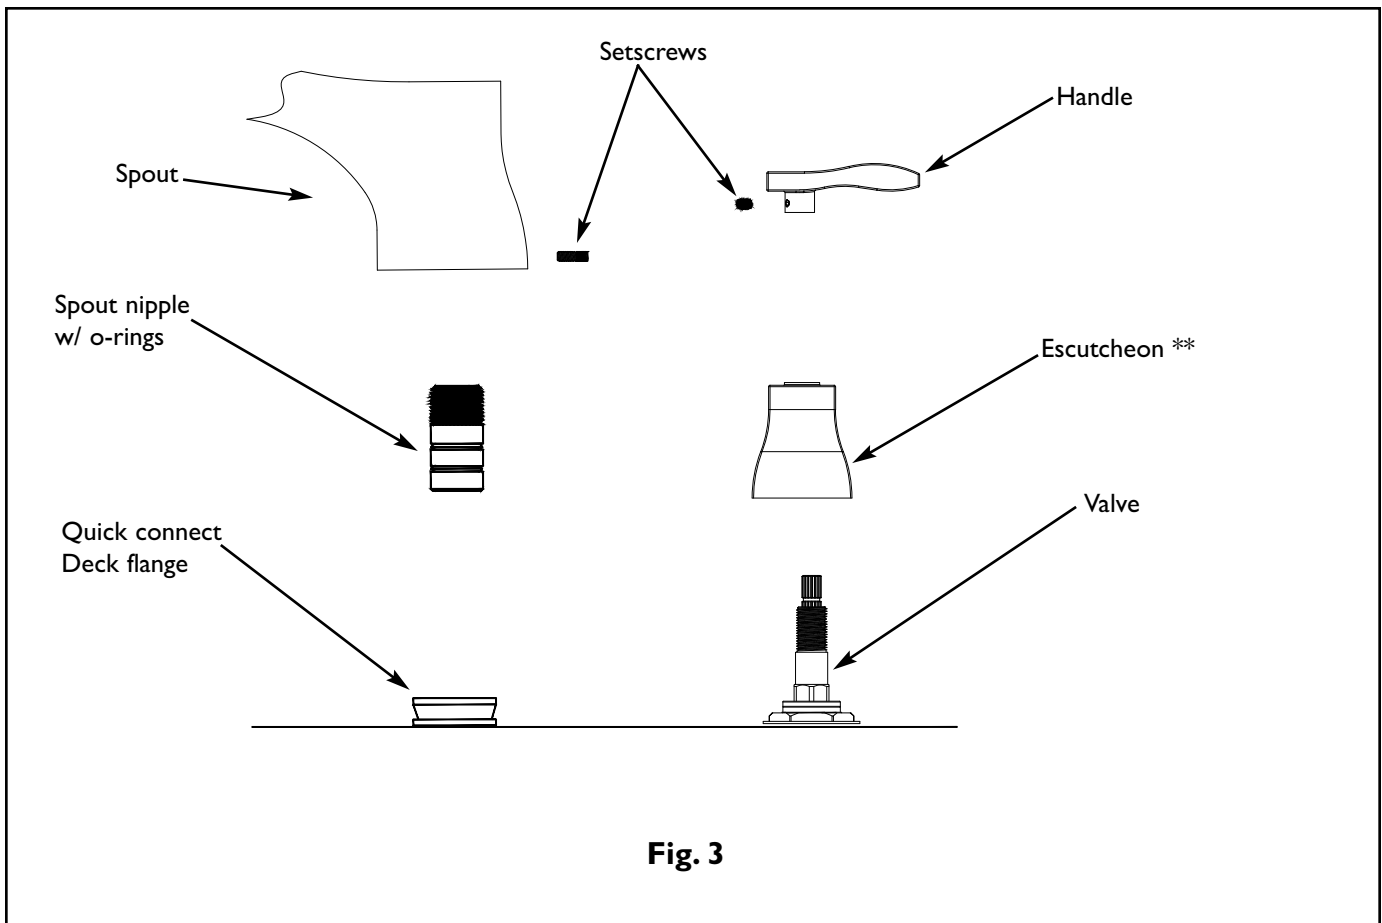

Fig. 3
4. Attach handle trim to valve. When possible, any adjustments for rotational alignment should be made to the valve body - not to the cartridge. (Note: Allow minimum spacing between handles and escutcheon/bonnet to prevent damage to the surface finish.) Secure handles into place with setscrew. See Fig. 3
5. Apply plumbers tape to spout nipple and install into base of spout. Slide spout nipple into quick connect deck flange (re-grease if necessary). Make sure spout is flush with deck and secure into place with setscrew. See Fig. 3